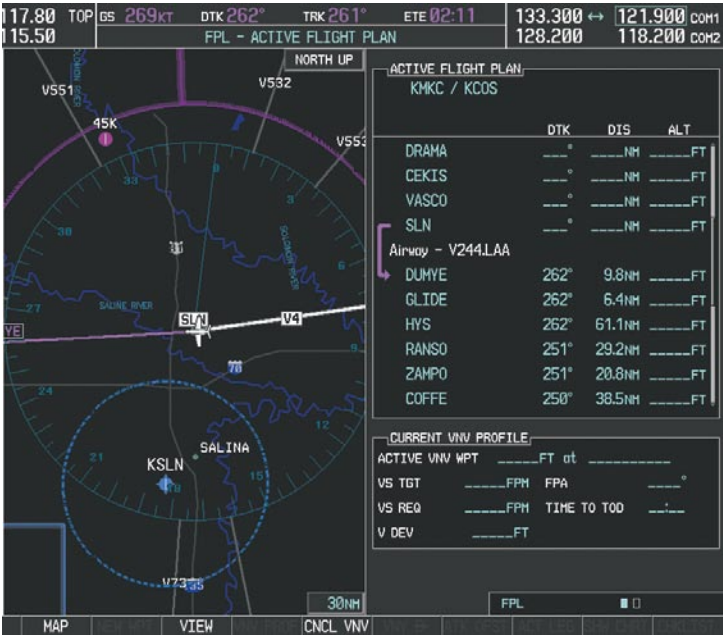

Figure 5-118 V244 Now Active Leg
9) As seen in Figure 5-118, V244 is now the active flight plan leg.